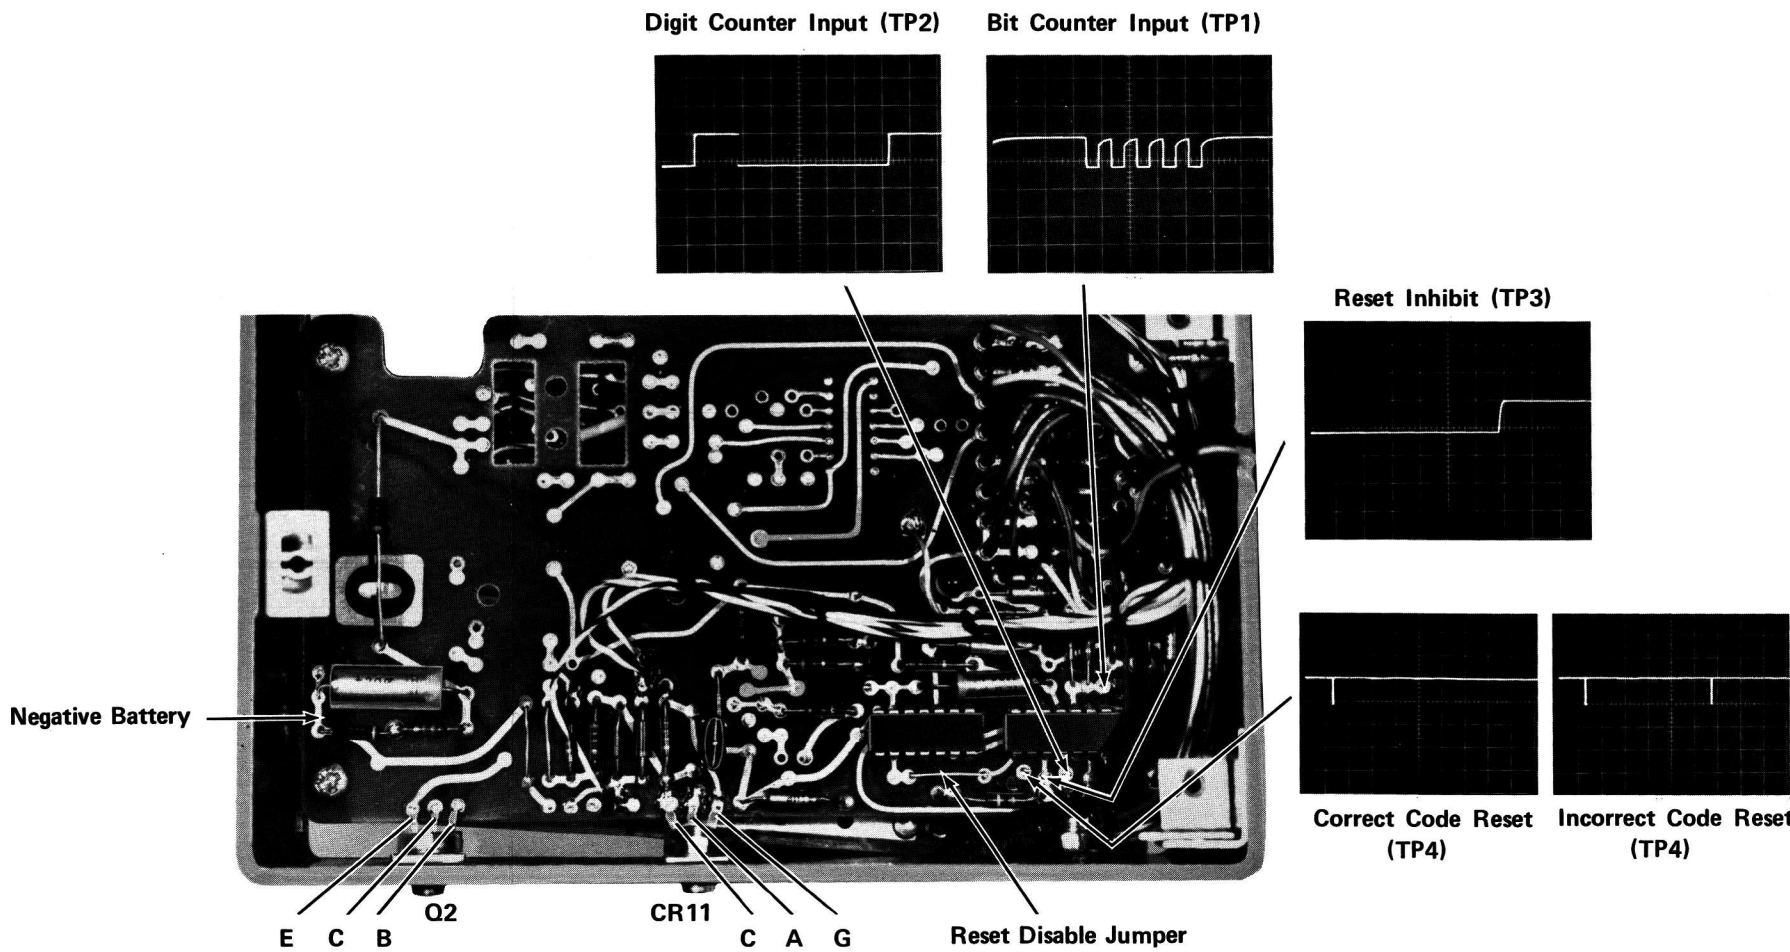
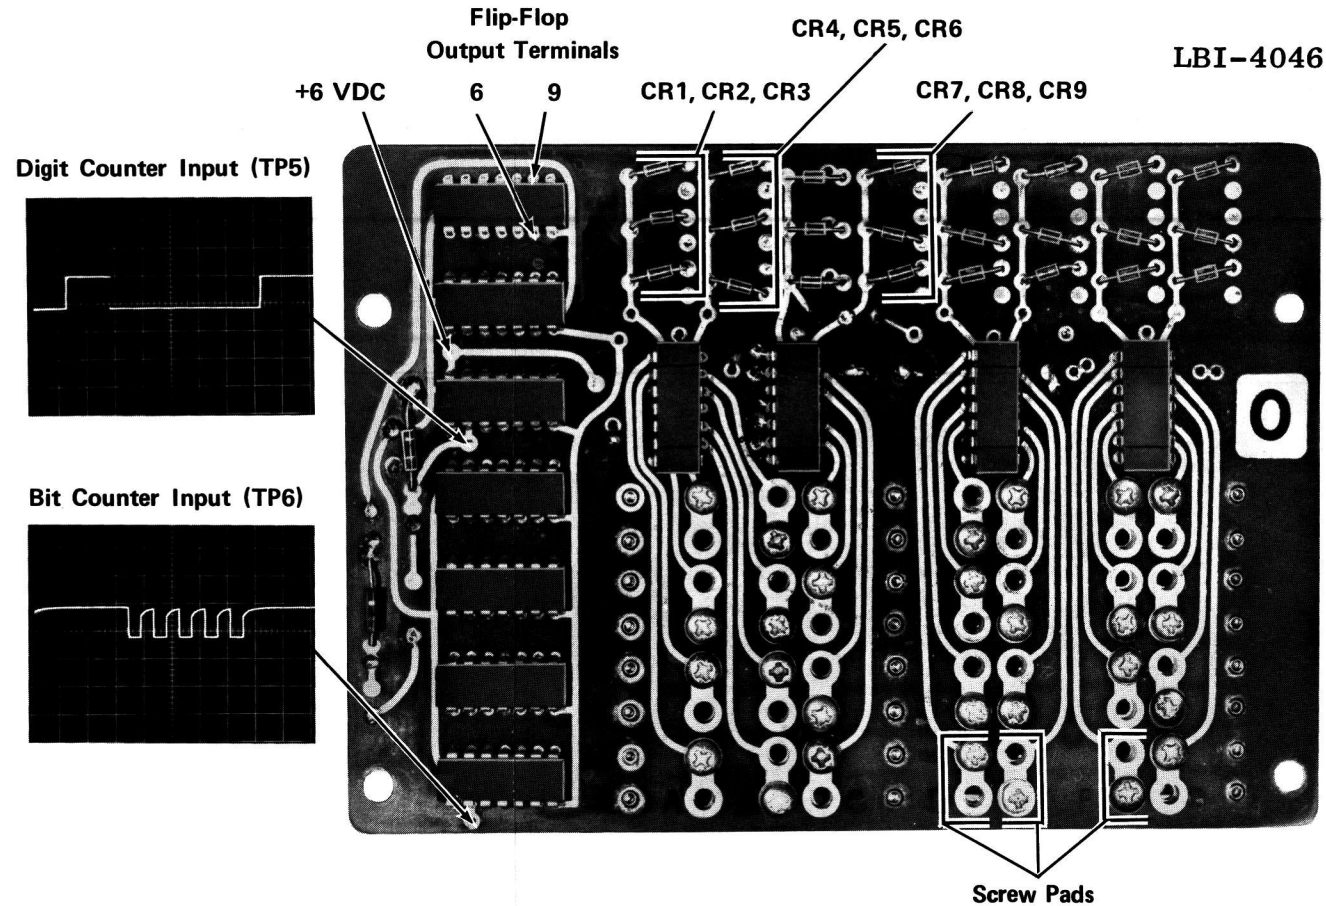

Figure 16 - Pulse Routing Board
Figure 17 - Counter Board
- All waveforms shown are with the proper tone applied and the digit 5 dialed. Note: the digit 6 was dialed for the incorrect code reset waveform shown in Figure 16.
- Before starting the procedure, check for +6 volts DC at the emitter of regulator transistor Q2 (see Fig. 16). Then check for +6 volts on the Counter and Tone Receiver Boards (see Figs. 17 and 18).
Decoder doesn't respond to correct code	<ol style="list-style-type: none">Check the screw placement on the counter board (refer to the Code Setting Procedure as listed in the Table of Contents). At no time should two screws be located in any one screw pad (see Figure 17).Dial a "5" and check the waveforms at TP1 and TP2 (see Fig. 16). If the proper waveforms are not present, refer to Tone Receiver Board checks. If proper waveform is present, continue with Step 3.Dial a correct first digit and keep the tone on after dialing. All of the screw heads in row A should measure approximately +6 volts DC, which indicates that the first digit was counted correctly. Dial a correct second digit and keep the tone on after dialing. All of the screw heads in row B should be at +6 volts, indicating the second digit was counted correctly. Dial a correct third digit and keep the tone on after dialing. All of the screw heads in row C should measure +6 volts, indicating that the third digit was counted correctly. If all of the digits are counted correctly, refer to the Relay Board checks. If the screw heads do not go to +6 volts during the digit checks, continue with Step 4.Connect the reset disable jumper to battery negative to prevent re-setting while dialing (see Fig. 16). Dial the correct first digit again, keeping the tone on after dialing. Check the screw heads in row A again for +6 volts. If all of the screw heads are at +6 volts, check for a positive voltage at the cathode of CR1, CR2 and CR3. If the screw heads or cathodes are not positive, check the flip-flops as instructed in Step 5. If the screw heads and cathodes are positive (indicating a correct count), dial the second and third correct digits to check the screw heads in rows B and C, and the cathode of diodes CR4, CR5, CR6 and CR7, CR8, CR9. If all codes are counted correctly and the cathode of the diodes are positive, this indicates a fault in the reset circuit. Check the correct code, incorrect code reset and reset inhibit waveforms shown in Figure 16, and refer to the circuit analysis section for detailed operation and Truth Table for the reset circuitry.
Decoder doesn't respond to correct code (cont'd)	<ol style="list-style-type: none">With the reset disable jumper connected, dial a "5" and check the input waveforms at TP5 and TP6 (see Fig. 17). If the waveforms are not correct, check the Tone Receiver Board or the envelope detector circuitry. If the waveforms are correct, check to see if the flip-flops are switching (one output terminal at +6 volts ("1") and the other at zero ("0")). Refer to the circuit analysis of the Counter Board and the Truth Table on the Schematic Diagram (see Table of Contents).If the flip-flops are not switching properly (both output terminals at zero volts or both at +6 volts), remove all of the screws in the bit counter flip-flop or unsolder all of the diodes in the output of the digit counter and re-check the flip-flop output. If the flip-flop does not switch correctly, replace the IC module. <p style="text-align: center;">NOTE</p> <p>To remove an IC module, clip off all of the leads as close as possible to the body of the module. Then unsolder and remove one lead at a time, being careful not to pull the printed wiring away from the board.</p>